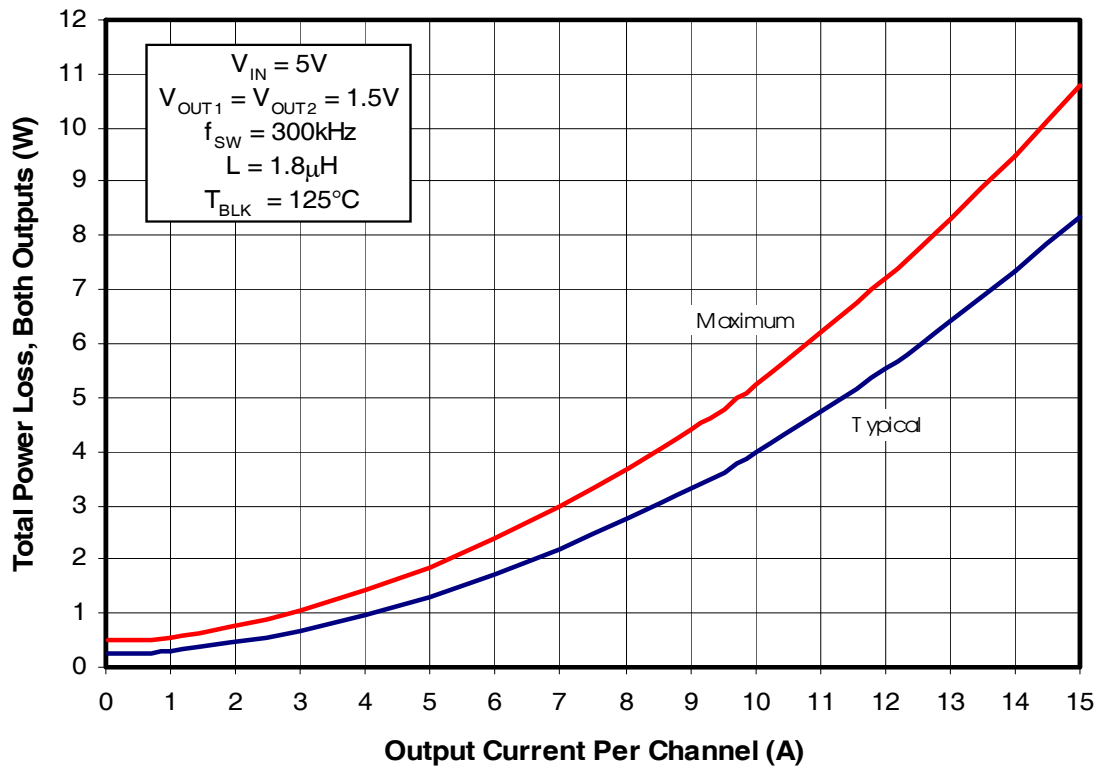
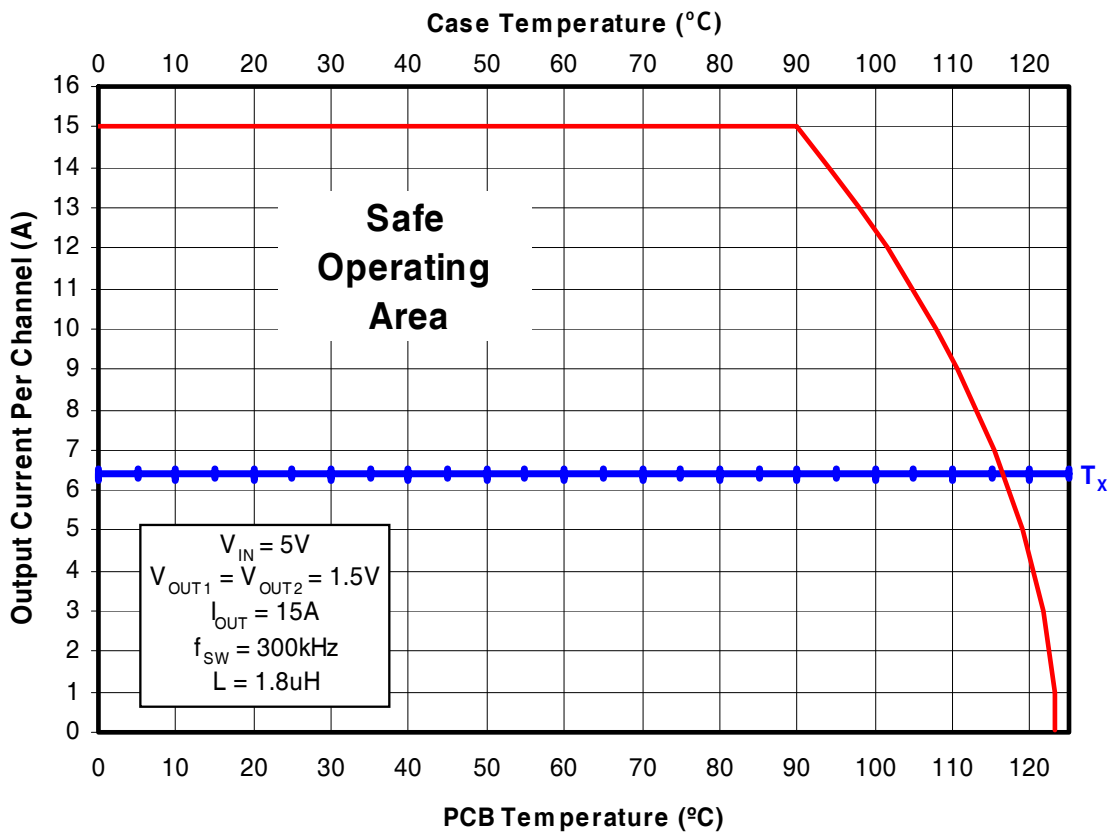
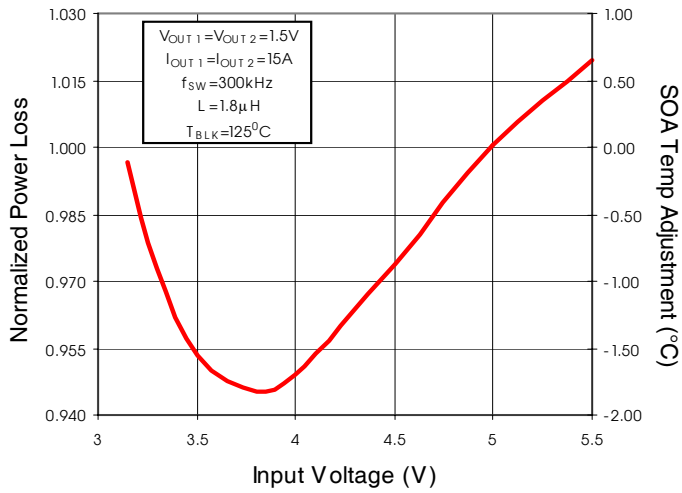

Fig. 2: Power Loss vs. Current
Fig. 3: Safe Operating Area (SOA) vs. T_{PCB} & T_{CASE}
Fig. 4: Normalized Power Loss vs. V_{IN}
To make adjustments to the power loss curves in Fig. 2, multiply the normalized value obtained from the curves in Figs. 4, 5, 6 or 7 by the value indicated on the power loss curve in Fig. 2. Remember that the power loss in Fig. 2. is the power loss for 2 outputs operating with the same output voltage. If differing output voltages are used the initial power loss for each channel needs to be divided by 2. Then if multiple adjustments are required, multiply all of the normalized values together, then multiply that product by the value indicated on the power loss curve in Fig. 2. The resulting product is the final power loss based on all factors. See example no. 1.
To make adjustments to the SOA curve in Fig. 3, determine your maximum PCB Temp & Case Temp at the maximum operating current of each iP1201. Then, add the correction temperature from the normalized curves in Figs. 4, 5, 6 or 7 to the T_x axis intercept (see procedure no. 2 above) in Fig. 3. When multiple adjustments are required, add all of the temperatures together, then add the sum to the T_x axis intercept in Fig. 3. See example no. 2.
- Output1 (Fig. 2) Maximum power loss = 5.3W / 2 = 2.65W
(Fig. 4) Normalized power loss for input voltage ≈ 0.97
- Output2 (Fig. 2) Maximum power loss = $8.25W / 2 = 4.13W$
- Output1 (Fig. 4) Normalized SOA Temperature for input voltage $\approx -1.0^{\circ}C$
- Output2 (Fig. 4) Normalized SOA Temperature for input voltage $\approx -1.0^{\circ}C$